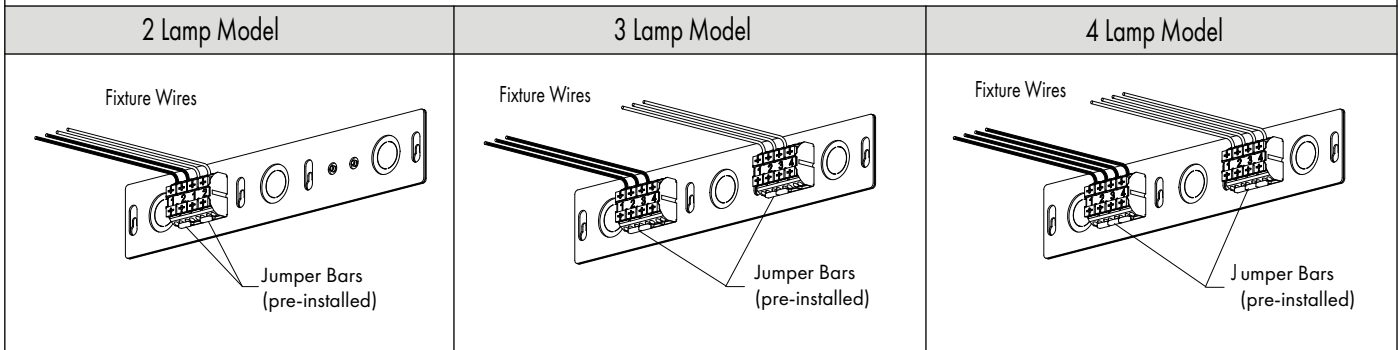

FIG 8.1 Jumper Bars
1. Ensure jumper bars are installed in terminal blocks as shown - FIG 8.1.